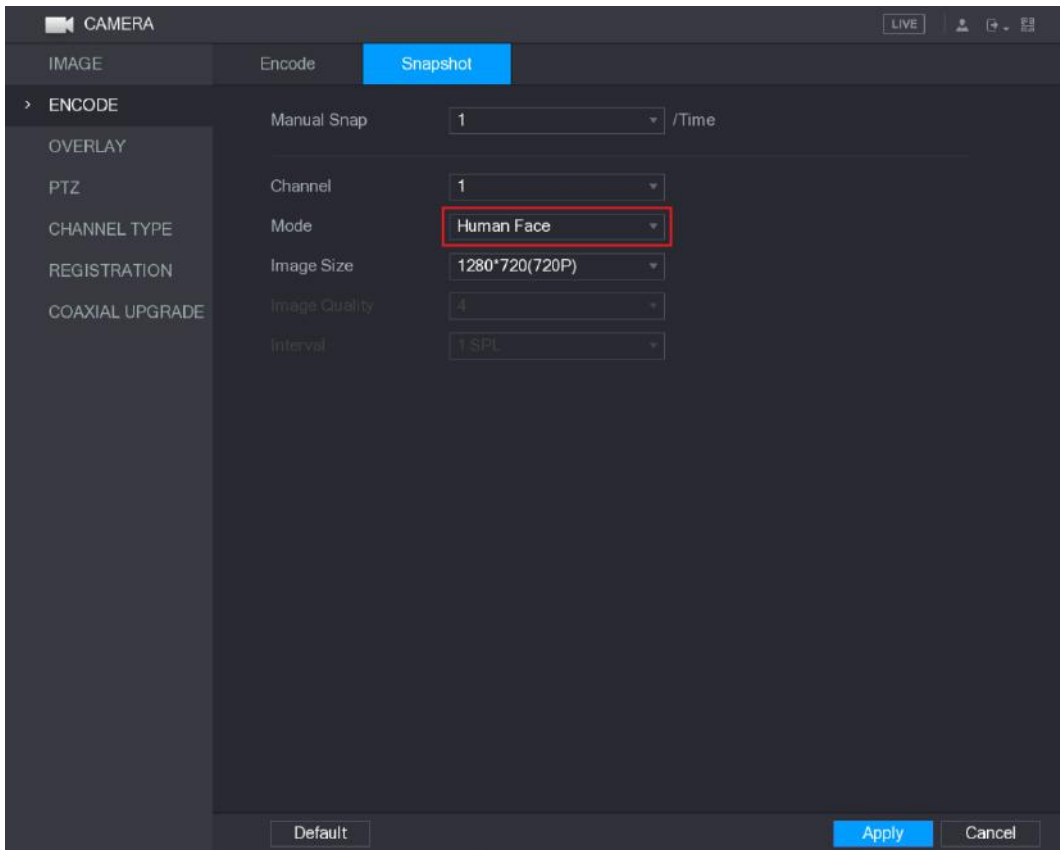

Figure 5-93
Step 2 In the **Mode** list, select **Human Face**, and then configure other parameters. See Figure 5-93.